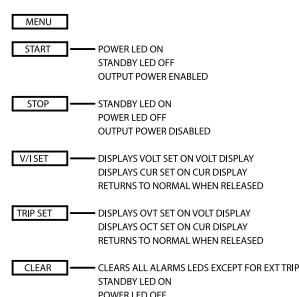

Figure 3.15. Run Mode Commands
*Figure 3.15, “Run Mode Commands”* illustrates run mode commands. Run mode commands are used when the power supply has been configured for the desired application.